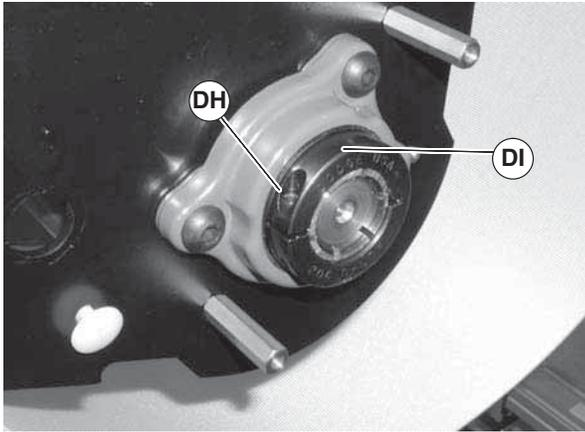

Figure 110
3. Loosen clamp screw (Figure 110, item DH) and remove bearing collar (DI).
7. Reinstall bearing collar (Figure 110, item DI). Tighten clamp screw (DH) to 95 in-lbs (11 N-m).